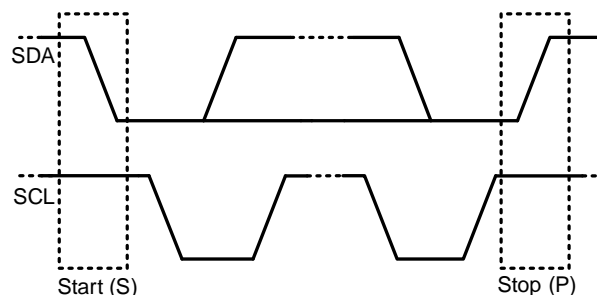

Figure 6: Start and Stop Commands
All transactions begin with a start (S) command and are terminated by a stop (P) command. Start and stop commands are generated by the master. A start command is defined as a high to low transition on SDA while SCL is high. A stop command is defined as a low to high transition on SDA while SCL is high. Figure 6 shows the start and stop commands.